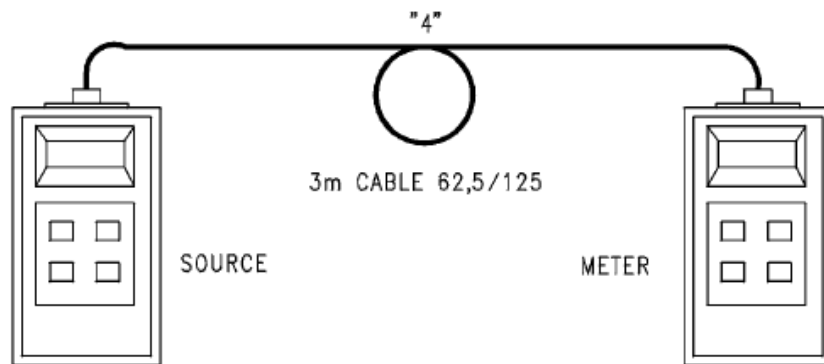

fig. 4.22
- Connect the 3 m of the 62.5/125 optical cable with identifier “4” from the Source in 1st window to the Optical Power Meter (fig. 4.22).